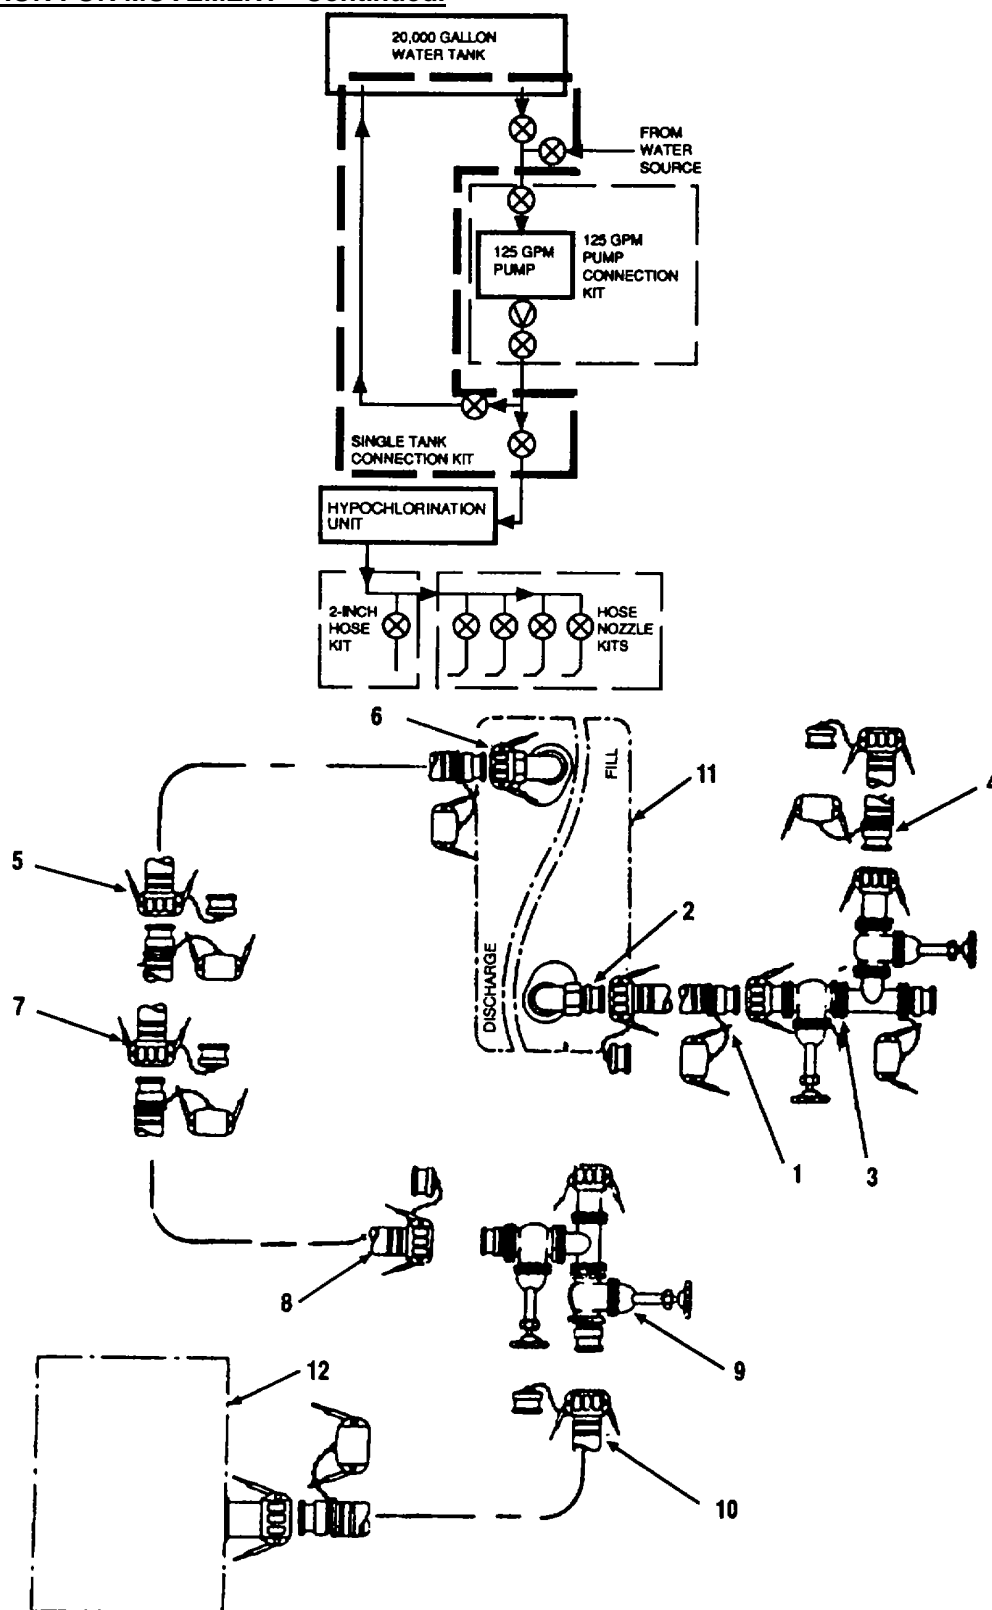

Figure 2-14. Single Tank Connection Kit Disassembly
- (12) Drain and allow components to dry.
- (13) Install caps and plugs on component couplings (para. 2.7c).
- (14) Roll up all discharge hoses and secure with tape.
- (15) Prepare 125 gpm pump (6) for movement. Refer to the applicable TM.
e. Disassemble Single Tank Connection Kit. Refer to Figure 2-14.